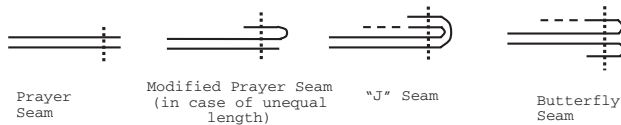

Figure 4 Geotextile Sewing Seams Details
2. The top geotextile layers shall be sewn together at the seams, or at the discretion of the Engineer may be heat bonded. Geotextile sewing seams to be used are Prayer, "J", or Butterfly, see details in Figure 4. The seam shall be a two-thread, double-lock stitch, or a double row of single-thread, chain stitch. If heat bonding is to be used, care must be taken to avoid burn through of the geotextile. It is important that the geotextiles be joined continuously along to the seams as to prevent any fugitive particle migration into the geonet core flow channels.